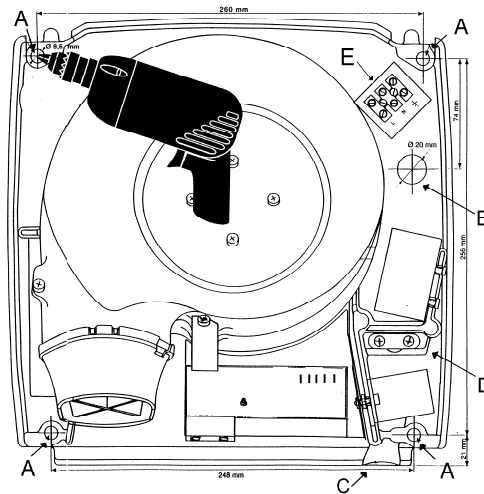

Fig. 1
- ❶ Attach the template (Fig. 1) to the wall with tape ensuring that it is level.
- ❷ Mark and drill holes "A". Drill holes to fit plugs for 8 mm screws.
- ❸ Insert plugs and secure the dryer to the wall with 8 mm screws.
- ❷ Mark and drill holes "A".
- ❸ Secure the dryer with 8 mm screws for relevant wall type. Use plugs for plaster walls.
- ❶ When connecting directly to the fixed installation wiring via fixed cable or terminal box in the wall behind the dryer, the cable must be fed through hole "B" (Fig. 1) in the base plate and connected to the terminal block "E". Connect by means of three leads of min. 1.5 mm² cross-section per lead, 150 mm long (7 mm of which stripped).
- ❷ If installation as described in point ❶ is not possible, ensure fixed installation via contact breaker by feeding a loose, insulated cable through hole "C" at the bottom of the base plate, through tensile relief strap "D" for connection to terminal block "E". Apply three-core cable with earth wire, each lead min. 1.5 mm² cross section; maximum cable length: 1.5 m. Before securing the housing, remove the small relief at the bottom of the housing with cutting nippers and a file, ensuring that the hole is deburred and has no sharp edges.